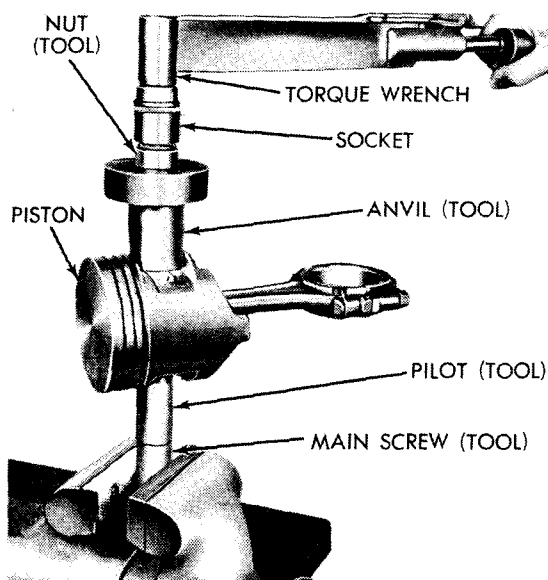

Fig. 33—Testing Fit of Piston Pin in Connecting Rod
(10) Place assembly in a vise (Fig. 33).
(11) Attach torque wrench to nut and tighten up to 15 foot-pounds. If the connecting rod moves downward on piston pin, reject this connecting rod and piston pin combination. Obtain a connecting rod with proper small end bore diameter and repeat the installation and tightening procedure.